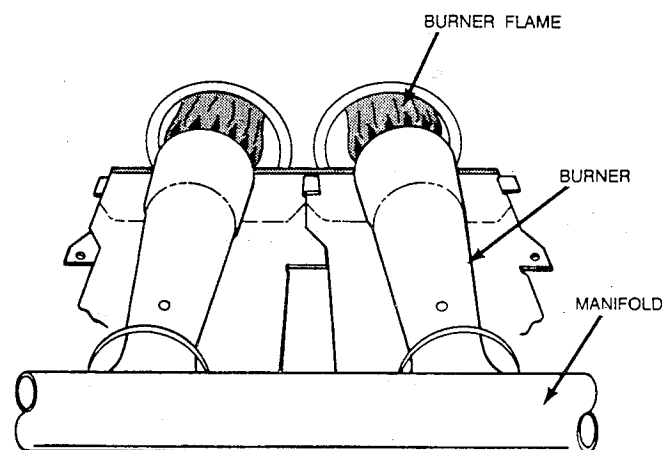

**Fig. 15—Burner Flame**
- (3.) When correct input is obtained, replace regulator adjustment seal cap. Main burner flame should be clear blue, almost transparent. (See Fig. 15.)